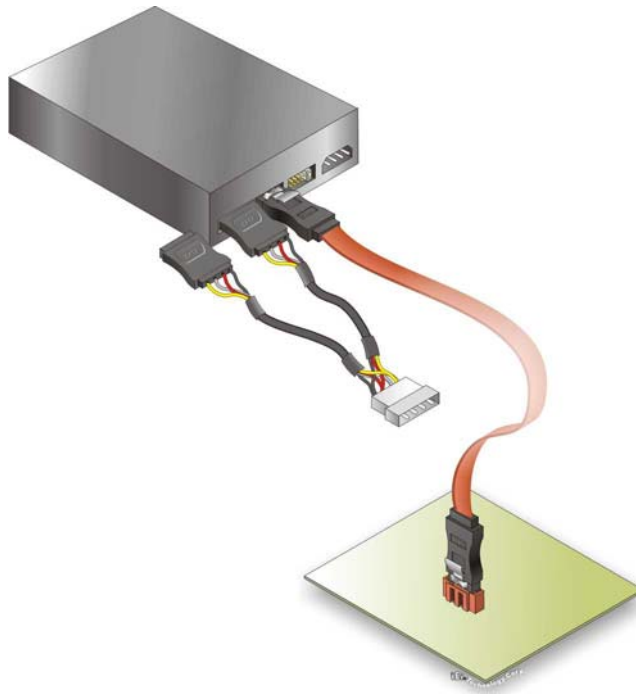

Figure 4-10: SATA Power Cable Connection
Step 3: Connect the cable to the SATA disk. Connect the connector on the other end of the cable to the connector at the back of the SATA drive. See **Figure 4-10**.
Step 4: Connect the SATA power cable (optional). Connect the SATA power connector to the back of the SATA drive. See **Figure 4-10**.